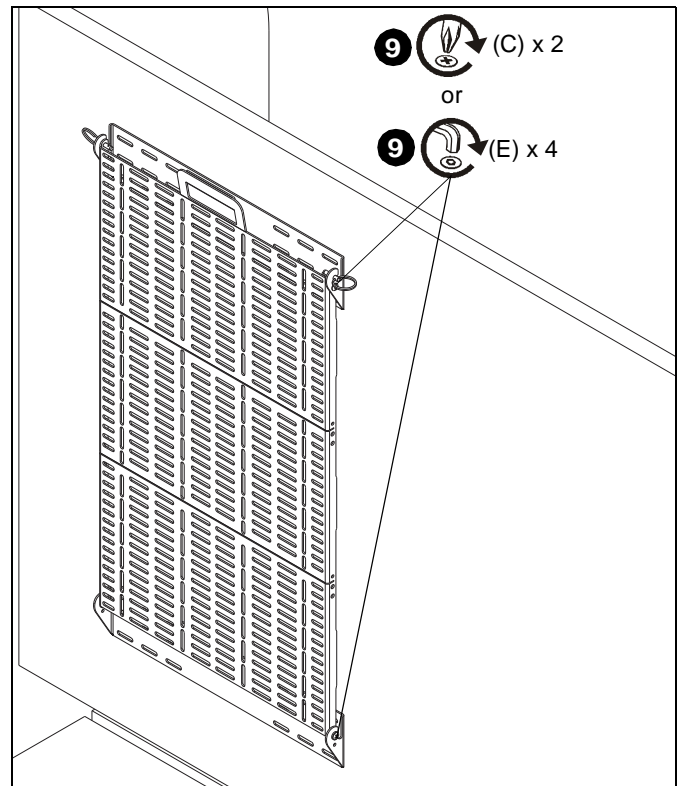

Figure 7
- Tighten all screws (C) or (E) holding accessory desk plate (A) to desk brackets (B). (See Figure 7)